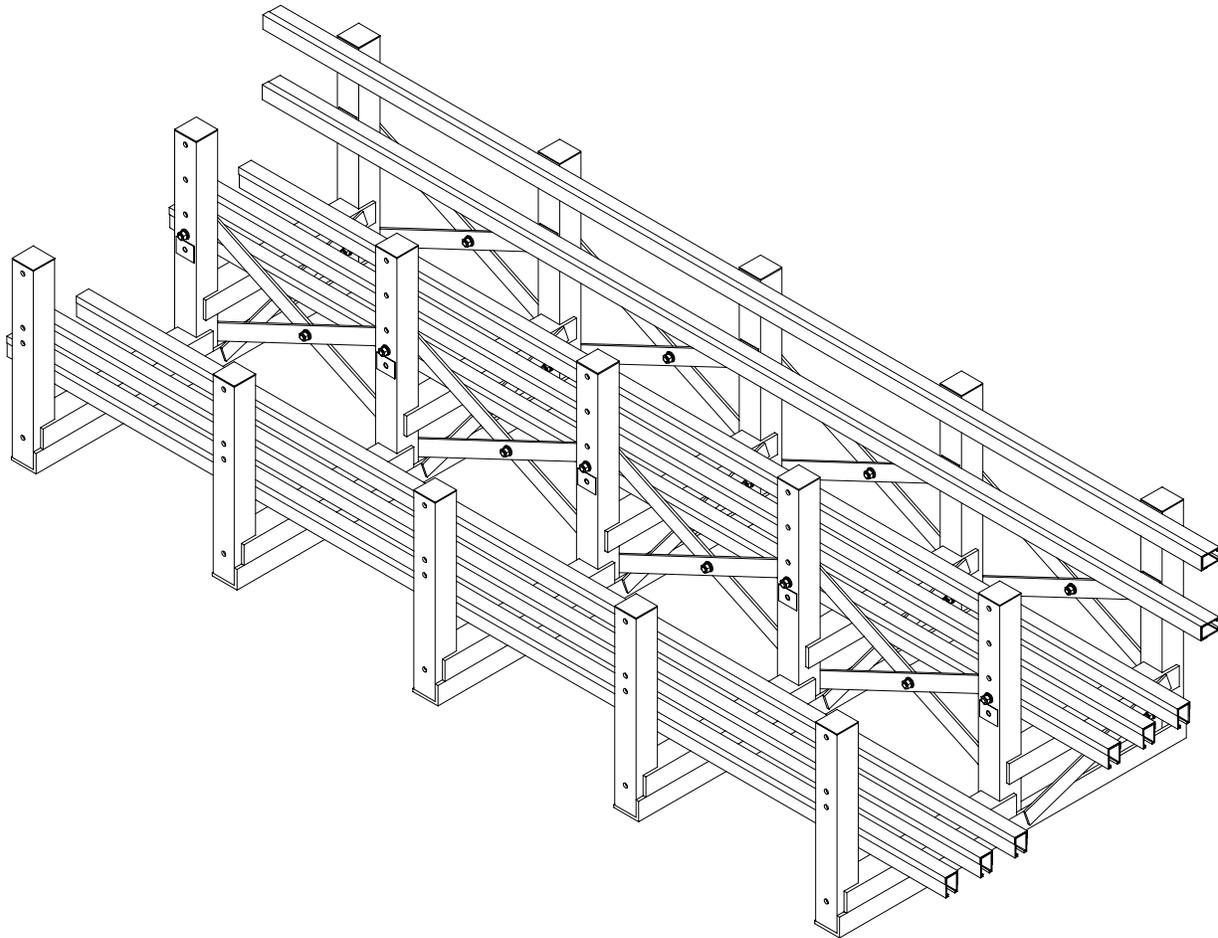

Figure 7.3a
- Locate support rails and side rail(s) so overhang is equal on both ends. **DO NOT** place cells on the rack at this time. (Side rail is to be located in the upper hole of the two mounting holes if provided on the frame.) See Figures 7.3a and 7.3b.